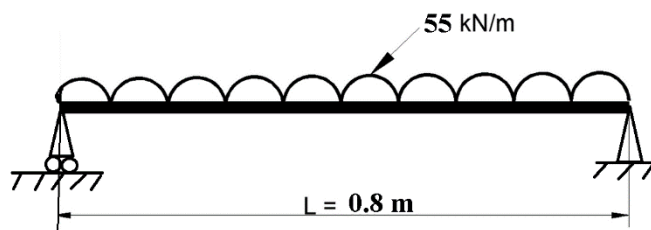

Fig. 2b
- 2 a) Determine the Maximum deflection for the simply supported beam shown in the Fig. 2b using R-R method. Take $E = 210 \text{ GPa}$ and $I = 2 \times 10^{-9} \text{ m}^4$ 12